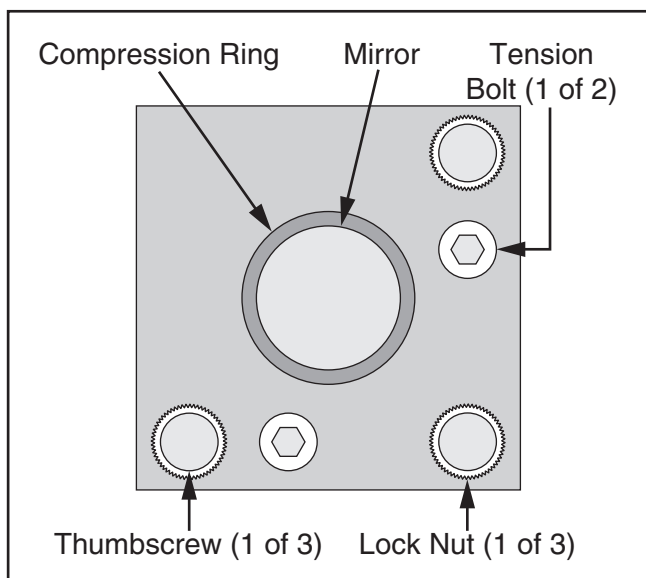

Figure 114. Typical mirror assembly.
26. Loosen lock nuts on (3) brass thumbscrews located behind Mirror #2 assembly (see **Figure 114**).